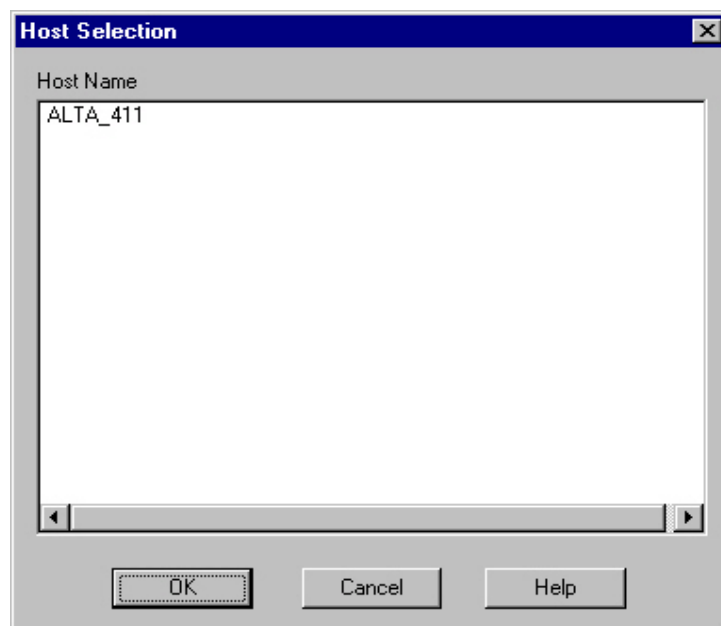

Figure 13. Host Selection Dialog Box
3. If you choose Remote Servers, select a host to view from the Host Selection list (see Figure 13).